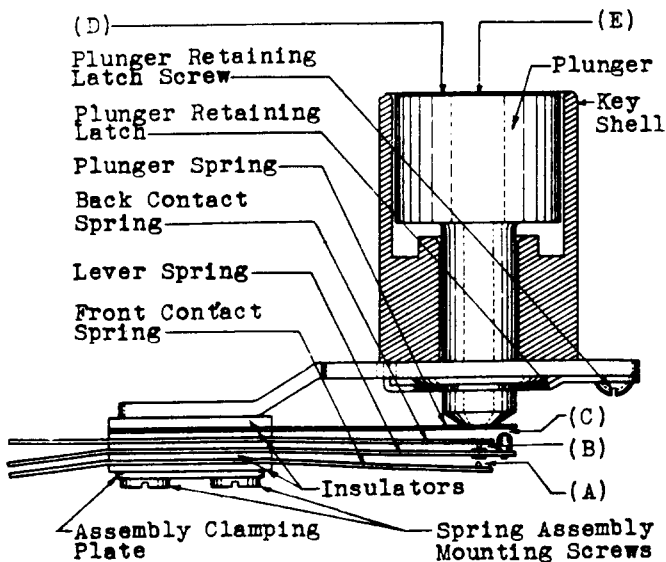

Fig. 4
Fig. 4 (B) - There shall be a pressure between the normally closed contacts when the key is normal and between the normally open contacts when the key is operated of:
***2.07 Stud Gap (520-F, J and K Keys) - Fig. 4 (C)** - With the key in the normal or unoperated position, there shall be a perceptible clearance between the plunger spring and the lever spring stud. Gauge by eye.
(b) 520-F, J and K Keys - Fig. 4 (D) -
2.10 Plunger Non-Operate Pressure - Figs. 4 (E) and 5 (B) - The plunger shall not move out of the normal position when a pressure is applied of: